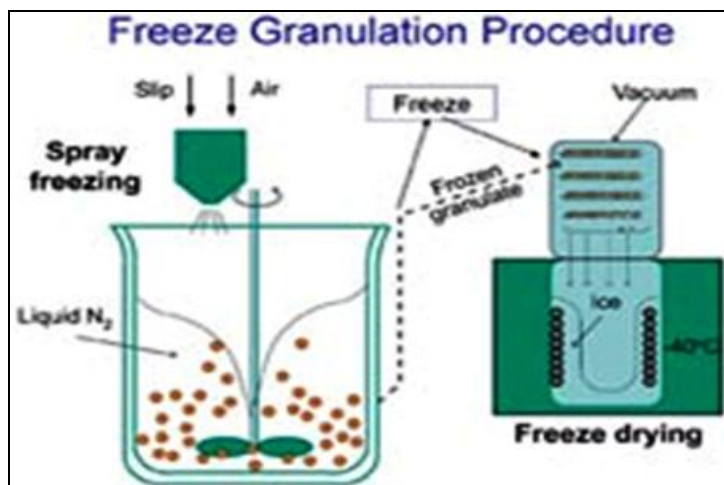

FIG. 5: POWDERPRO AB
**3. In Technological industry**9: Freeze granulation was developed at SCI in the late 1980s as the most suitable method to provide optimal granule properties for lab and research purposes. During the 1990s, freeze granulation was successfully used in material and processing developments within many research projects and contract work. **PowderPro AB (fig. 5)** was founded in January 2000.
**PowderPro AB (fig. 5)** supplies granulation equipments and carries out test granulations (standard concept), whereas SCI conducts slip and granulation development. Several companies and research labs around the world have applied the freeze granulation process with the support of **PowderPro**. Typical ceramic powders are oxides (Al2O3, ZrO2, SiO2), nitrides (Si3N4) and carbides